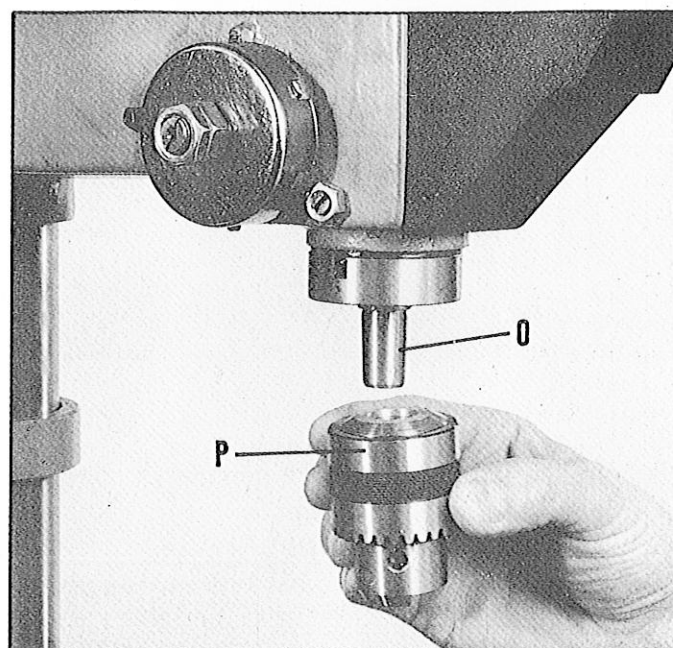

Fig 10
10. IMPORTANT: Make certain the bottom of spindle (O) Fig. 10 and the tapered hole in chuck (P) are clean and free of any grease, lacquer or rust preventive coatings. NOTE: Household oven cleaner can effectively remove any substance from the spindle and chuck, however, carefully follow the manufacturer's safety rules concerning its use.